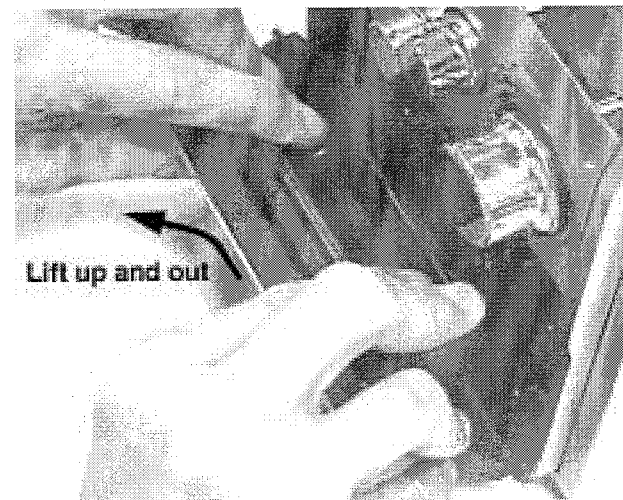
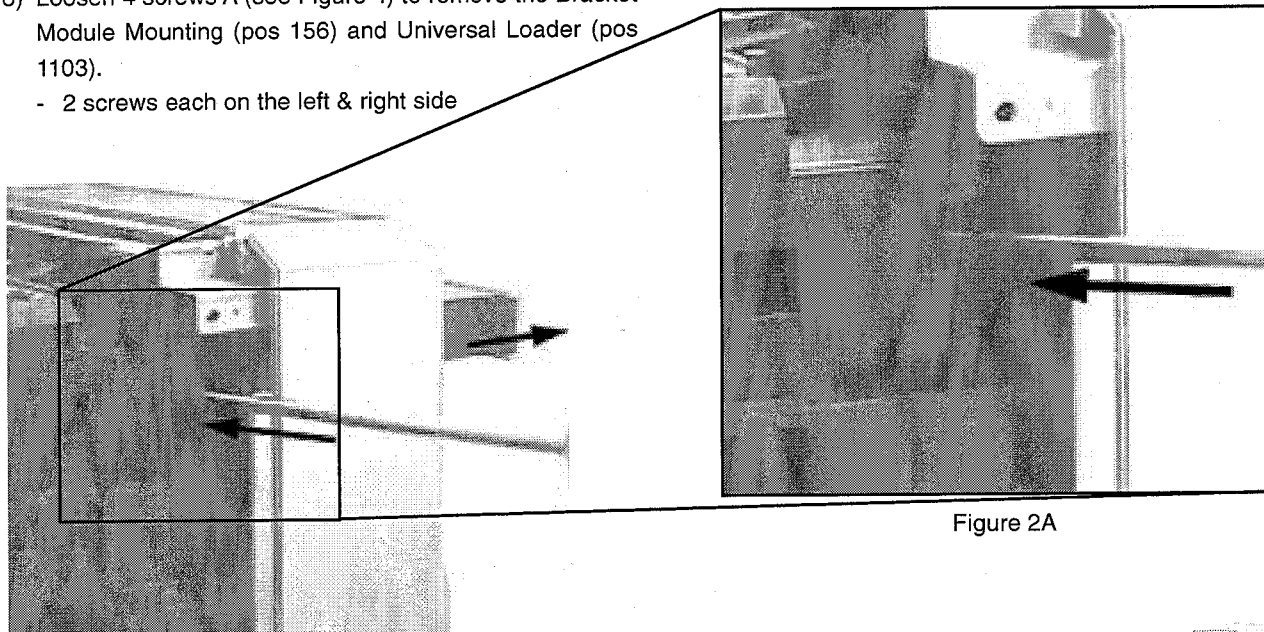

Figure 1
Figure 2
- 1) Remove the Cover Cassette (pos 150) in the direction as shown in Figure 1.
- 2) Loosen 4 screws to remove the Cover Top (pos 240) by sliding it out towards the rear before lifting up.
- 3) Loosen 2 screws each to remove the Panel Left (pos 180) and Panel Right (pos 181). The Panels are removed by sliding it towards the rear and outwards.
- 4) Use a screw driver to give a push in the direction as shown in Figure 2 and Figure 2A to unlock the Loader Tray before sliding it out.